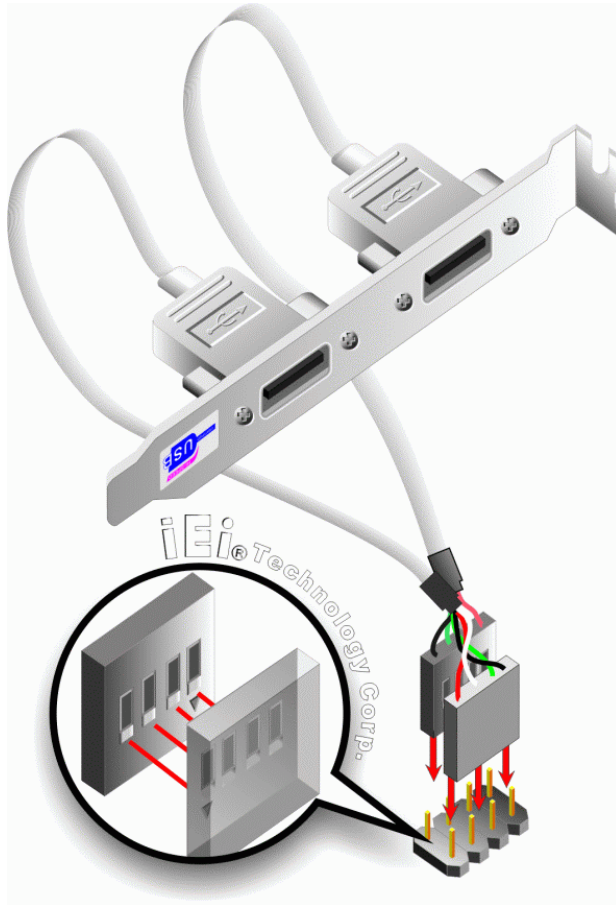

Figure 5-20: Dual USB Cable Connection
Step 3: Insert the cable connectors. Once the cable connectors are properly aligned with the USB connectors on the IMBA-9454ISA, connect the cable connectors to the onboard connectors. See **Figure 5-20**.
- Step 3:** **Insert the cable connectors.** Once the cable connectors are properly aligned with the USB connectors on the IMBA-9454ISA, connect the cable connectors to the onboard connectors. See **Figure 5-20**.